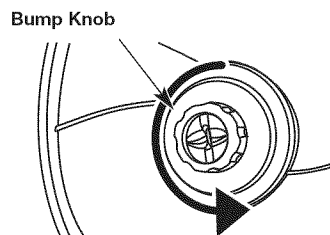

Fig. 14
1. Rotate the bump knob counterclockwise until all line is inside the cutting head (Fig. 14).
4. Hold the spool and turn the bump knob counterclockwise to wind the line around the spool until about 5 in. (12.7 cm) is protruding from each side of the cutting head. (Fig. 14)